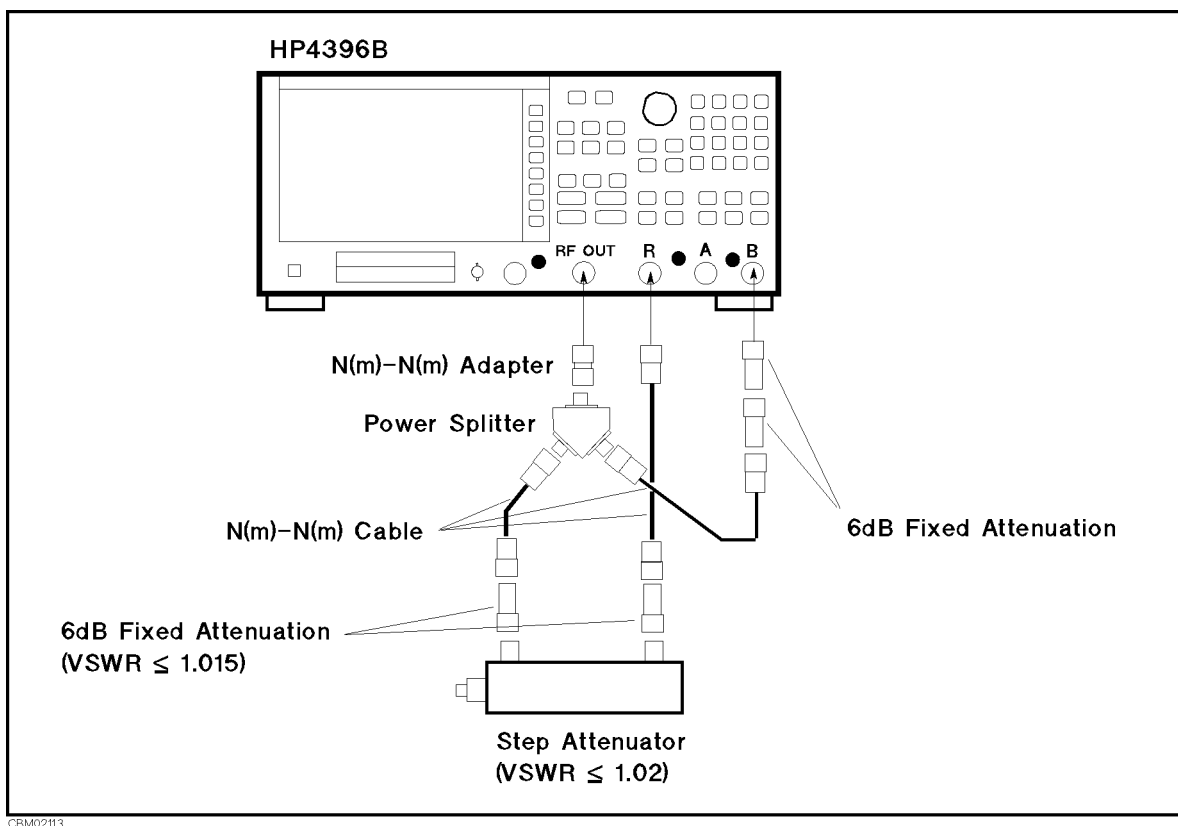

Figure 2-14. B/R Magnitude Ratio/Phase Dynamic Accuracy Test Setup 1
- a. Connect the test equipment as shown in Figure 2-14.